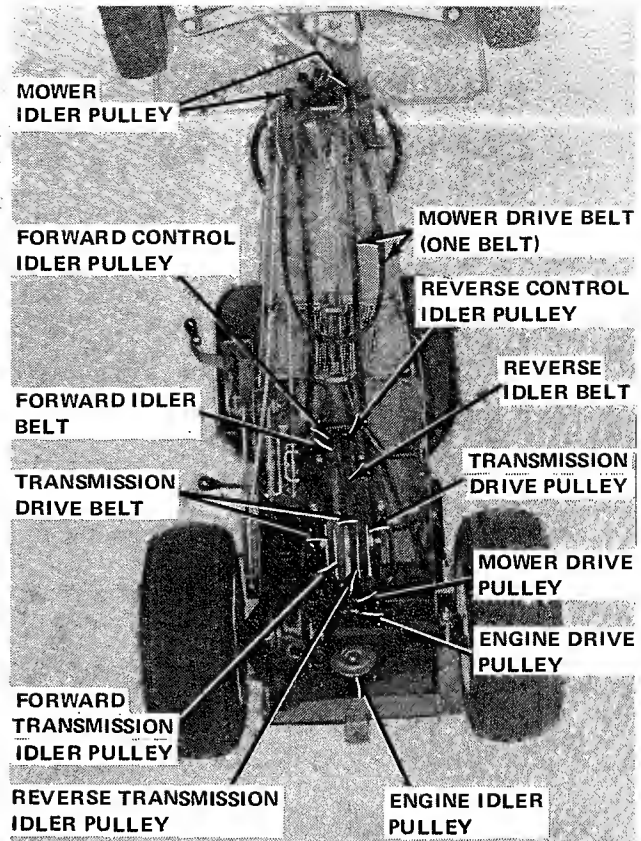

Figure 18.
NOTE: Refer to Figure 18 for location of pulleys and belts.
2. See Figure 18. Disengage engine drive belt from engine drive pulley and remove from rear cover opening.